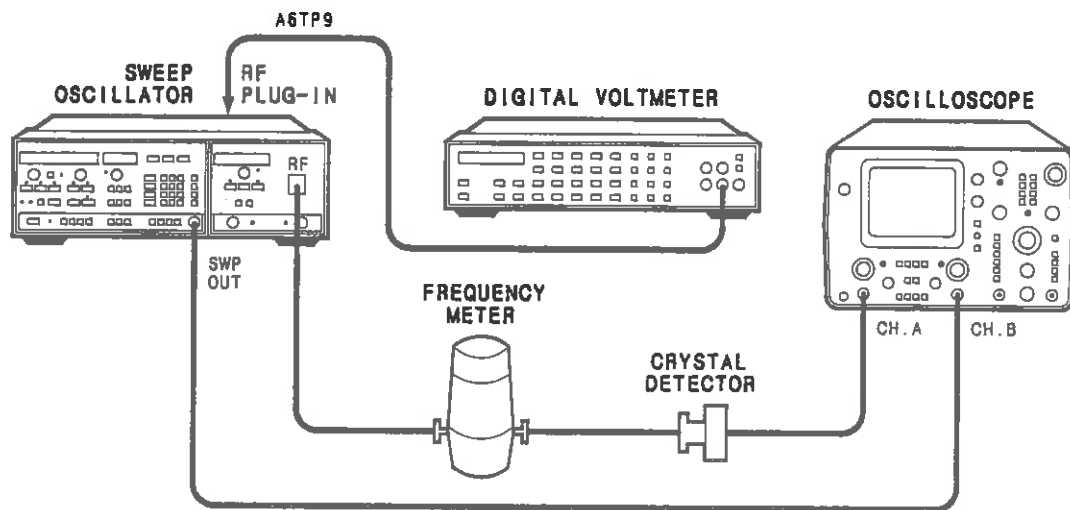

Figure 5-6. Delay Compensation Adjustment Setup
6. Connect the equipment as shown in figure 5-6. Select oscilloscope mode A vs B to obtain a CRT trace of amplitude versus frequency.